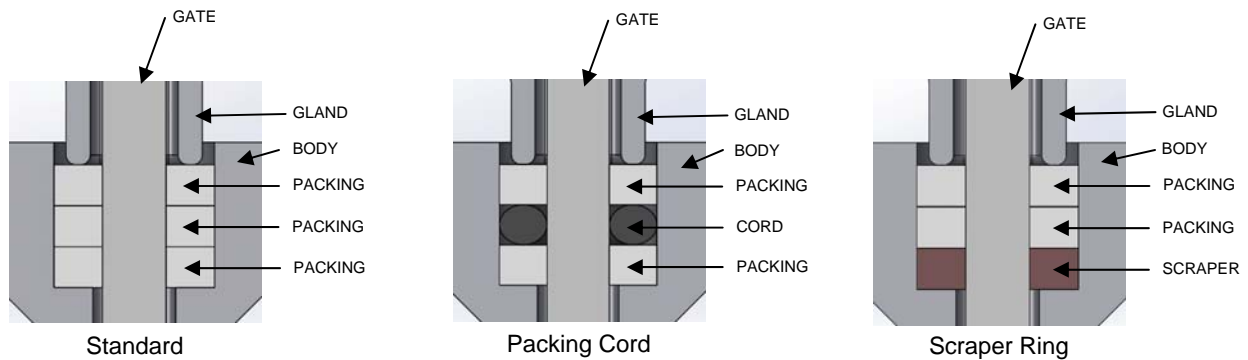

Figure 2—Packing Ring Sequence
3. Install and pack the rings one at a time in the sequence shown in Figure 2.